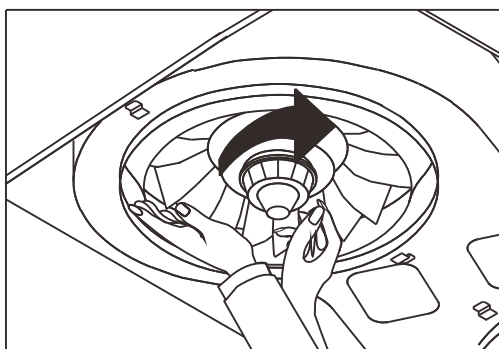

Fig. 4-11
- a. Hold the fan blade. Unlock the nut in clockwise direction (fig.4-11) to remove the fan blade. (fig.4-12)(Be careful while removing the fan to avoid damaging the fan blade.)